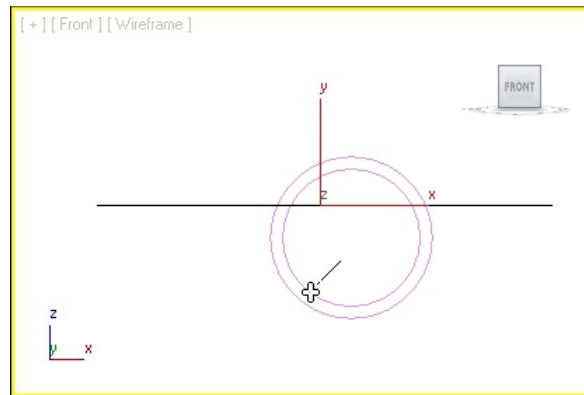
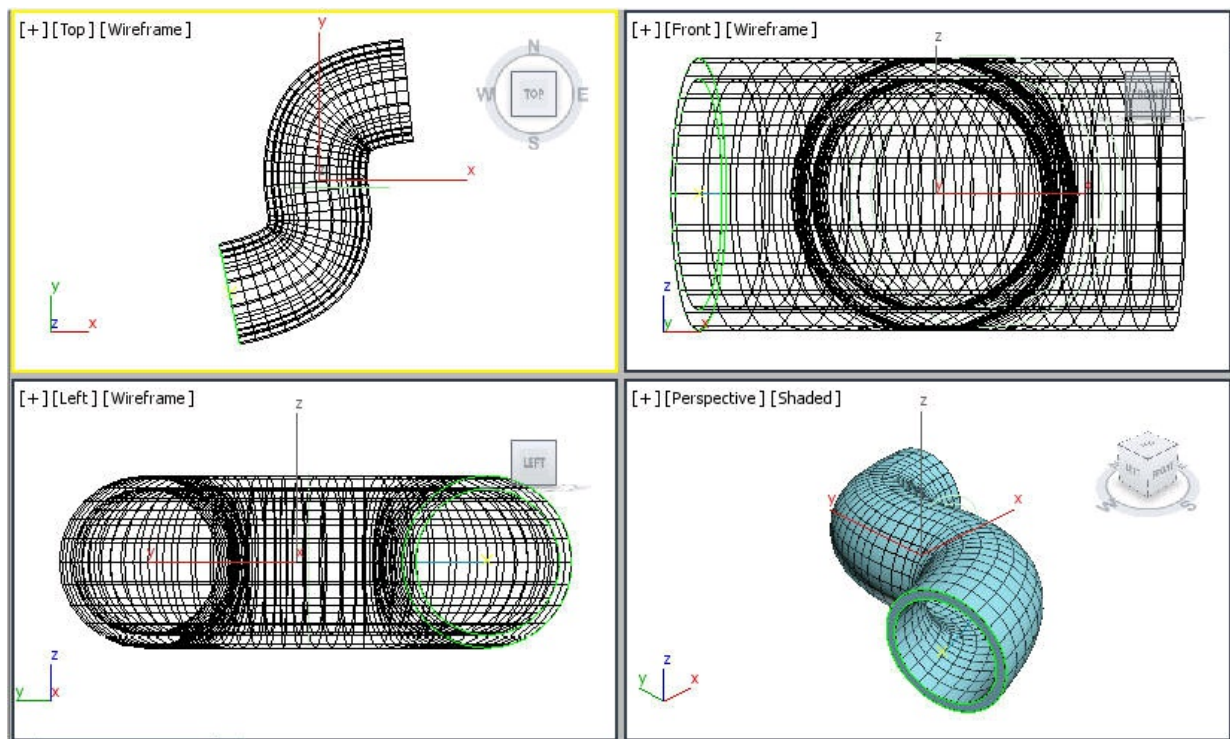

Figure 14-21 The cursor displayed after moving it over Donut001
Figure 14-22 The shape of the tunnel created in the viewports using the **Loft** tool
9. In the **Creation Method** rollout of the **Loft** tool, choose the **Get Shape** button and move the cursor over *Donut001* in the Front viewport; the shape of the cursor changes, as shown in Figure 14-21. Click on *Donut001*; the shape of a tunnel is created in the viewports. Right-click to exit the command. Choose the **Zoom Extents All** tool to view the entire shape in the viewports, as shown in Figure 14-22.
If the shape displayed after using the **Loft** tool is not similar to the tunnel shown in Figure 14-22, you need to modify the placement of vertices of Line001 spline at the **Vertex** sub-object level.